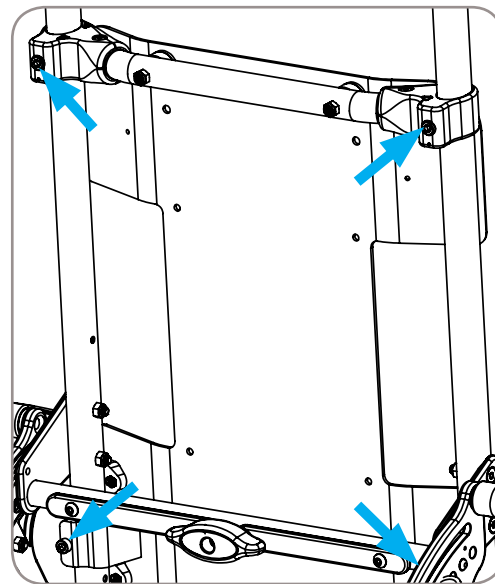

Figure 21
1. Loosen bolts (4) at locations shown in Figure 21.